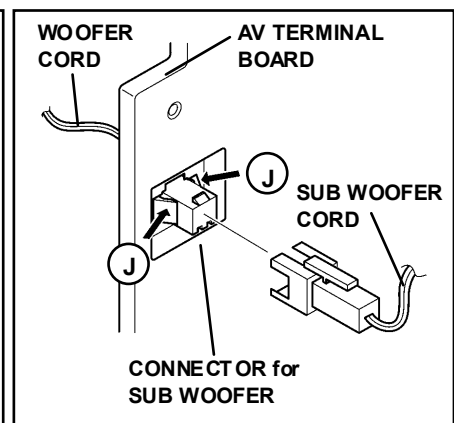

Fig. 4
4. After removing the claw **J** on the connector for SUB WOOFER, pull out the connector for SUB WOOFER. (Fig. 4)